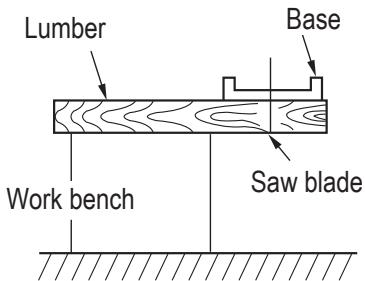

Fig. 16
5. Prepare a wooden work bench (Fig. 16)